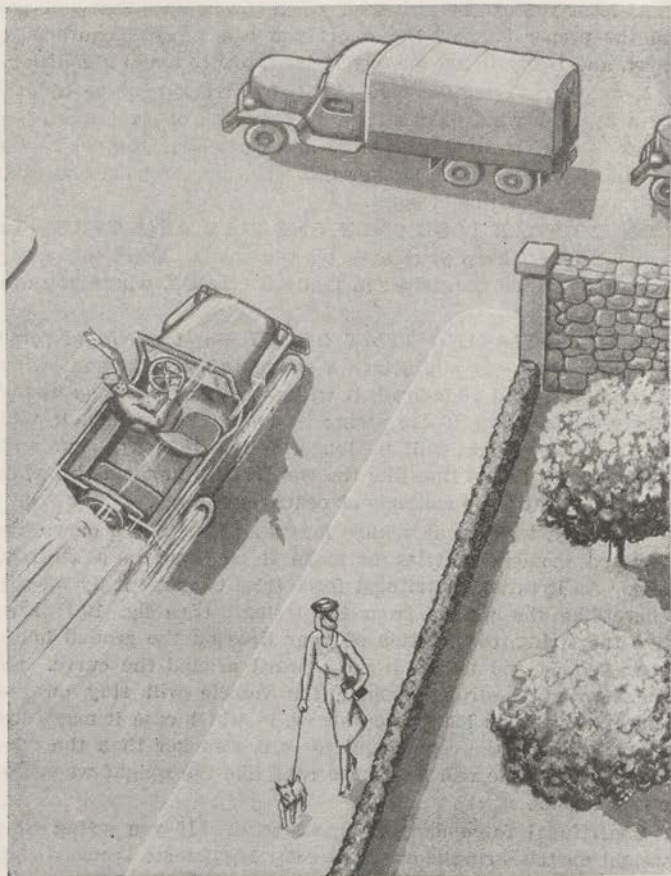

FIGURE 9.—But what about that truck?
24. YOU CAN LOOK ONLY ONE WAY AT A TIME.—To avoid crashes, keep your eyes on the road. Don't make the same mistake as the driver in figure 9. LOOK where you are going.